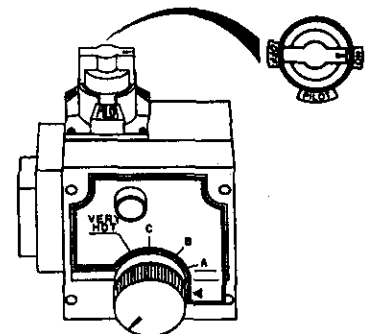

Figure 12
11. At arms length away, turn gas control knob counter-clockwise (↺) to the full "ON" position. **WARNING Do not use gas control knob to regulate gas flow.** (Figure 12, page 18)